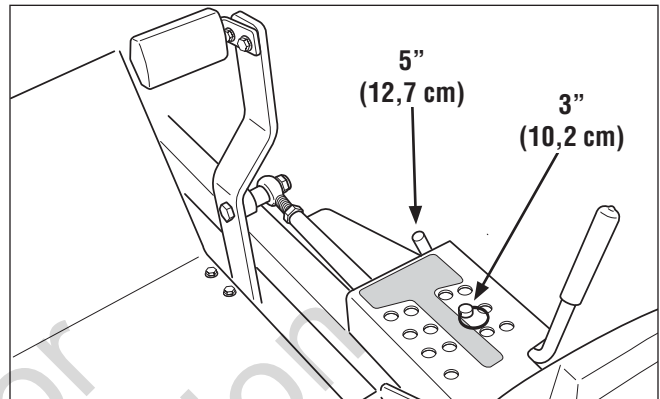

Figure 44. Deck Lift Pedal & Pin Position
5. To ensure that the deck is in the lowest position, push the pedal by hand towards the rear of the unit and install the height adjustment pin in the 3" (7,6 cm) position to hold in place. See Figure 44.